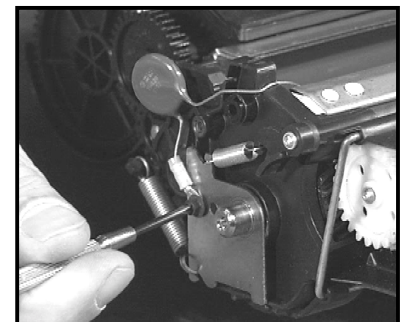

Figure 3
3. Remove drum axle screw on left side (fig. 3).